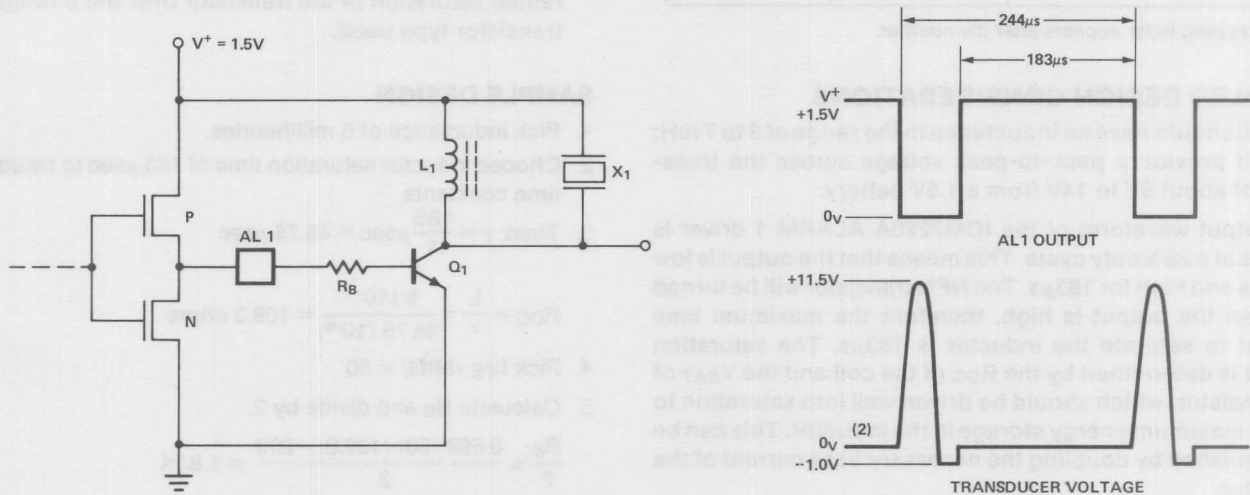

Figure 1. Use of an NPN Transistor and Associated Waveforms
three components — a transistor, an inductor, and a resistor. (See Figure 1).
6. The waveforms in Figure 1 and the SAMPLE DESIGN apply only to ICM7220W, ICM7221, ICM7222, ICM7223, and ICM7052. Other devices have different duty cycles, ON times, etc.